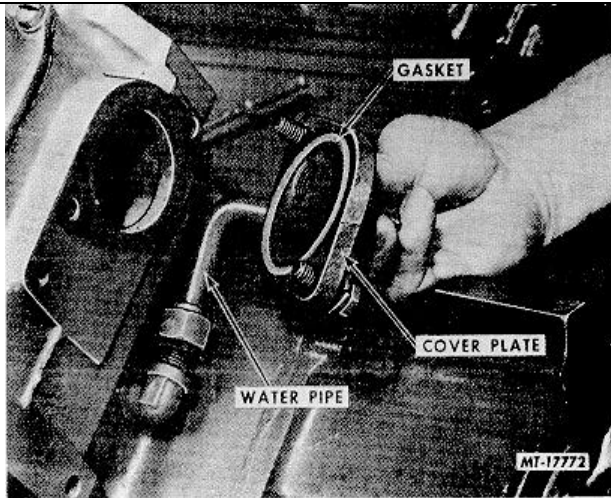

Fig. 45 Removing Cylinder Block-to-Cylinder Head Water Pipe and Cover Plate
38. Remove cylinder block to cylinder head water pipes, cover plates and gaskets from rear of each cylinder head (Figure 45).